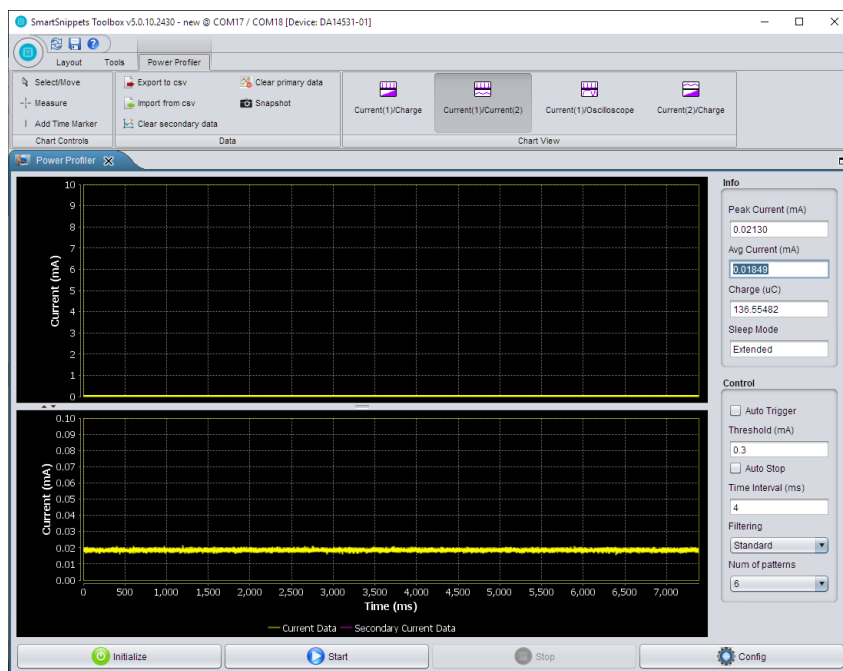

Figure 48: Measuring Offset
- Run a free running capture for a few seconds and note down the number in the “**Avg Current (mA)**” box (Figure 48). Note that the last digits of the number keep changing slowly due to temperature drift. It is important to periodically execute the calibration steps.